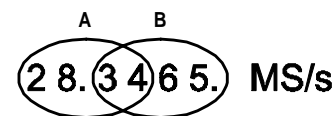

Figure 9. Symbol rate low and high-resolution display
**Symbol Rate:** (see Figure 9) For example; if the current Symbol Rate is 28.3465 Msymbols/s, changing to Alt-1 Mode (ALT LED flashes) and then pressing 5 displays the four most significant digits on the front panel (i.e., 28.34). At low resolution (A), pressing the up  $\uparrow$  or down  $\downarrow$  arrow button advances the Symbol Rate up or down in 10 Kbit/s steps (i.e., 28.35, 28.36, and so on). Pressing and holding down the up  $\uparrow$  or down  $\downarrow$  arrow button will increase the step size further.